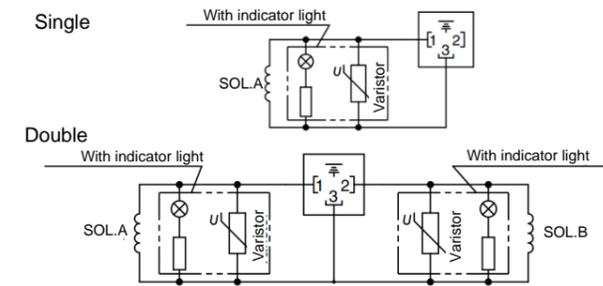

Figure 7. DIN circuit diagrams (100 VAC/DC or more)
- Refer to figure 7: Removing junction cover (1) allows access to plug-in terminal block (2). Connect with power side corresponding to markings.